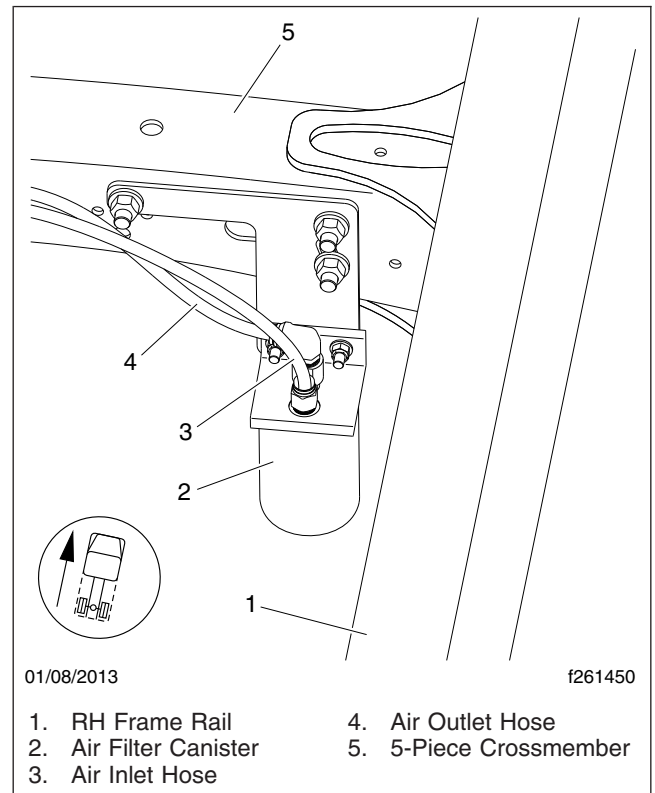

Fig. 5, Detroit Transmission Air Filter (typical installation)
3. Remove the air filter canister, located between the main air system and the transmission reserve air tank. See Fig. 5.